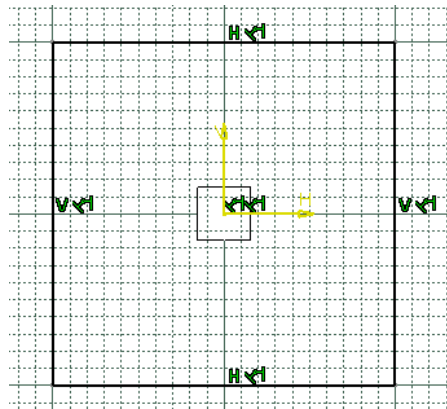

Figure 3-43 The sketch after drawing the centered rectangle
- Draw the outer loop of the sketch using the **Rectangle** tool and then edit it using the **Corner** tool, refer to Figures 3-43 through 3-45.
4. Move the cursor to a location whose coordinates are close to 100,100 and click when 200 is displayed in the **Height** and **Width** edit boxes in the **Sketch tools** toolbar; a rectangle is drawn, as shown in Figure 3-43. Now, click anywhere in the geometry area to make sure that the rectangle is no more selected.